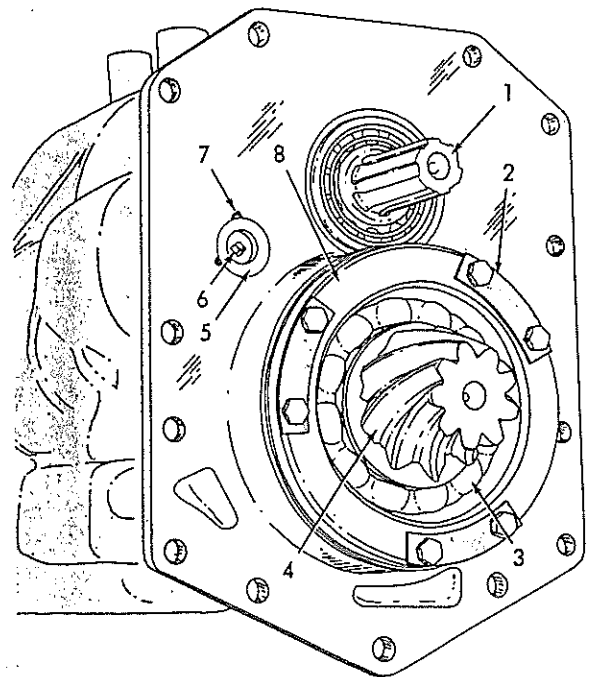

Fig. 10 Transmission Shafts Installed - Rear View (T-72011)
- Unlock and remove capscrews from pinion shaft rear bearing retainer Fig. 10 (8). Remove retainer and retainer shims; tie shims to retainer to prevent loss.
- c. Position reverse gear shaft, Fig. 6 (12) so hole for steel ball is in line with notch in transmission case. Start shaft in its bore and install steel ball in shaft; drive shaft into position. Install plug in end of shaft, Fig. 10.